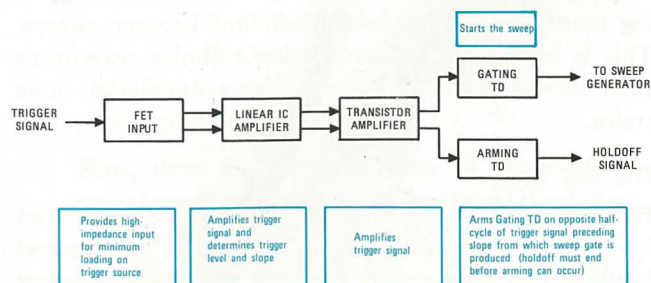

Fig. 4. Dual TD trigger circuit. Function of each block is shown in blue.
The 465 and 475 use a new dual tunnel diode (TD) trigger circuit for jitterless triggering to well beyond the upper bandwidth limit of each vertical system. Based on a TEKTRONIX patented concept, the trigger circuits of both instruments are similar except where special considerations must be made in the 475 due to the higher frequency signals involved. Fig. 4 shows a simple block diagram of the trigger circuit and explains the function of each block. With this trigger circuit, the sweep gate is produced directly from the incoming trigger signal without shaping as in previous trigger circuits. Jitter-free operation is largely the result of the dual-TD configuration. The Arming TD can only be triggered on the opposite half cycle preceding the trigger point and only after the holdoff has ended. Then it "arms" the Gating TD so it is ready to trigger at the exact trigger point selected by the front-panel trigger controls for a jitter-free sweep.